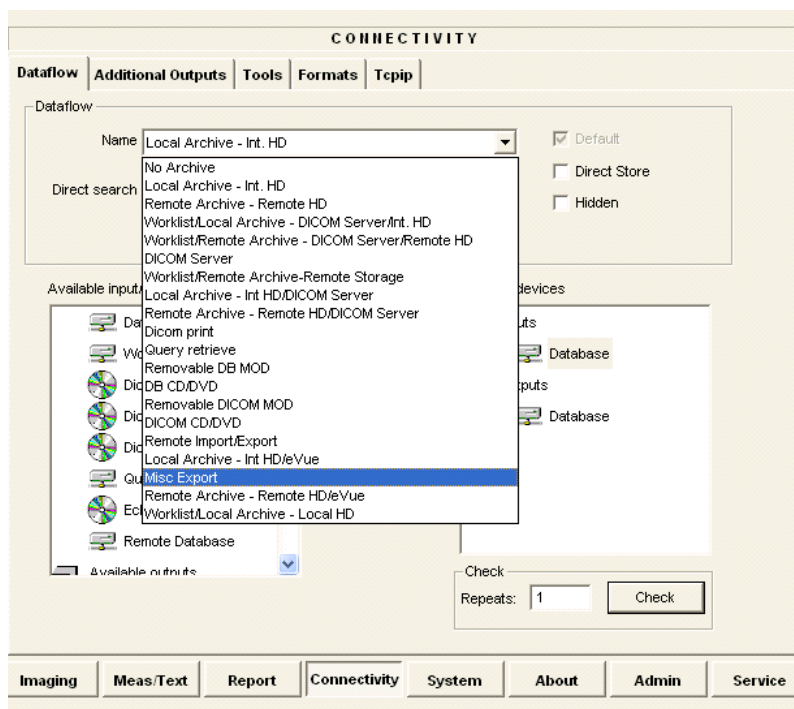

Figure 3-143 Dataflow - Misc Export
- 4) From the drop-down menu, select **Misc Export** - see Figure 3-143.